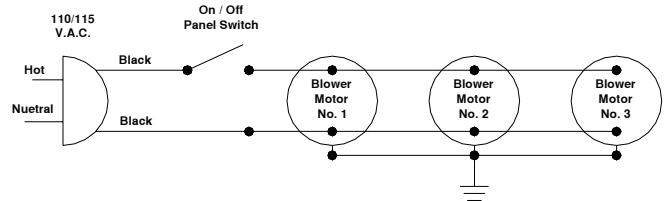

Figure 6 – Wiring Diagram
2. Apply the wiring diagram label (shown in figure 6) to the control cover and replace the cover back over the compartment opening.